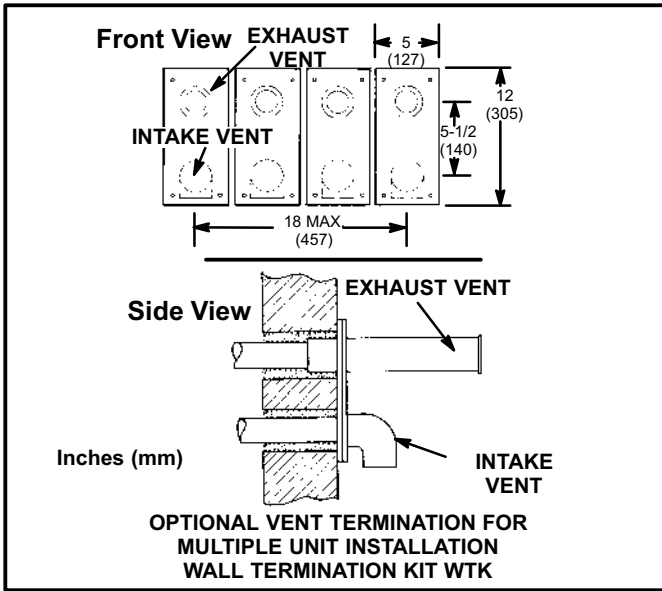

FIGURE 35
- 14- Based on the recommendation of the manufacturer, a multiple furnace installation may use a group of up to four termination kits WTK assembled together horizontally, as shown in figure 35.